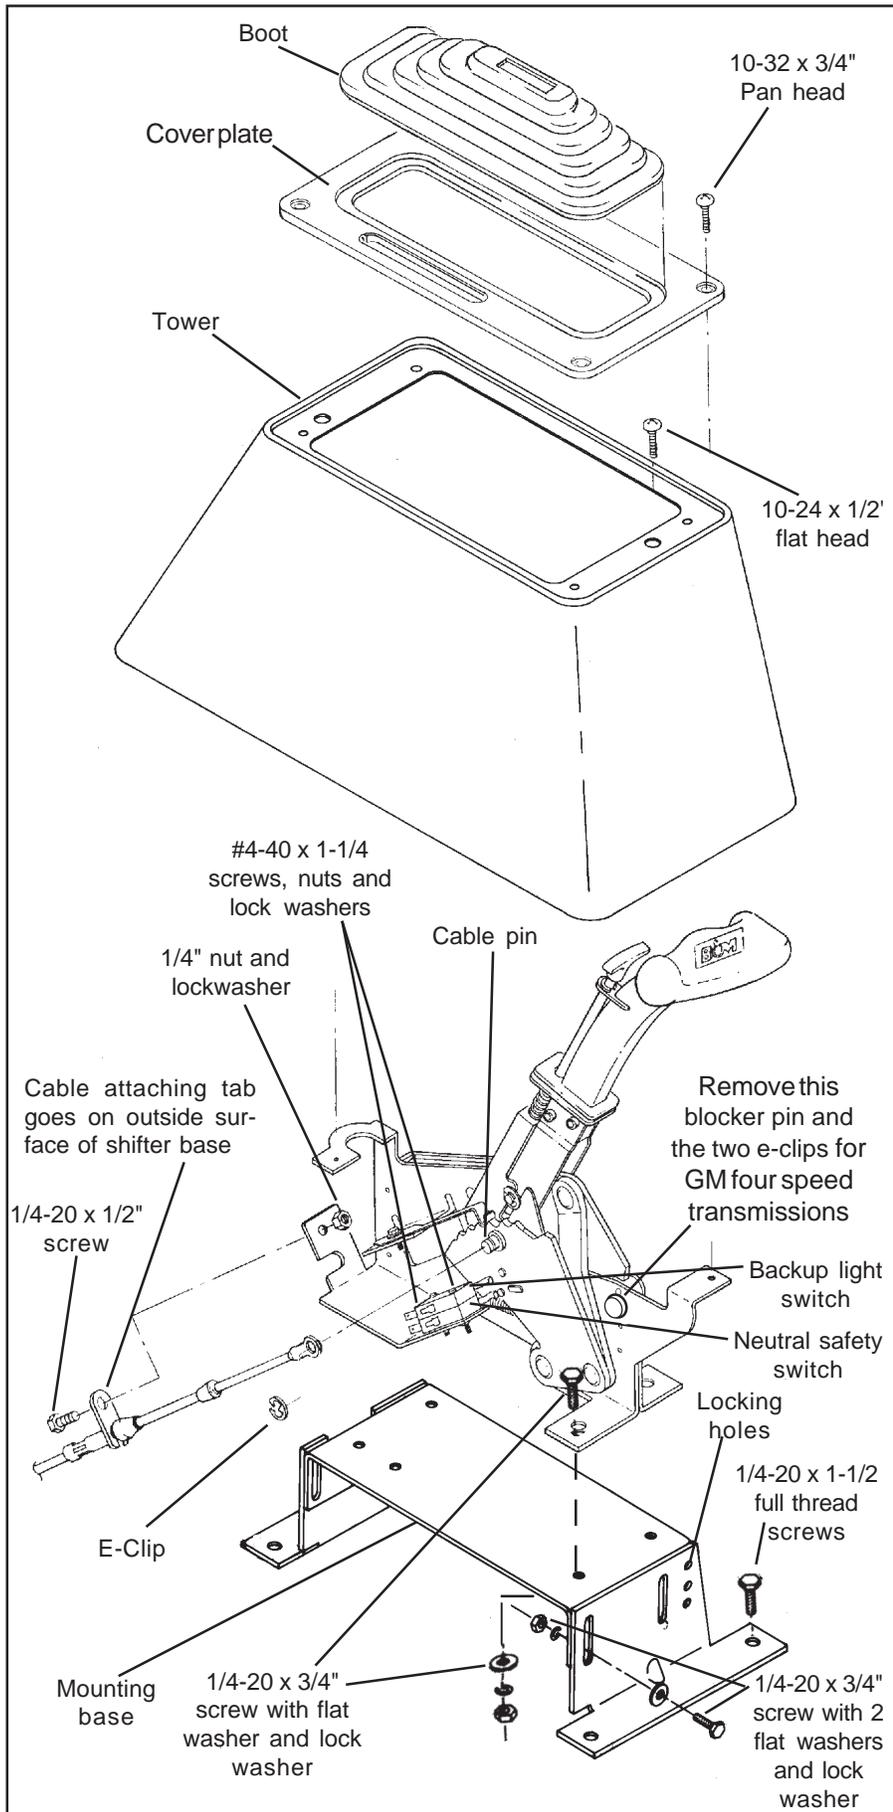

Figure 1
**NOTE:** If you are installing this shifter with a GM four speed automatic transmission, you must remove the blocker pin and the two e-clips indicated in **Figures 1 and 3**. Removing this blocker pin gives the shifter four forward positions rather than three. For Ford AOD four speed transmissions do **not** remove this blocker pin and the two e-clips, since this transmission has only three forward positions. Also do **not** remove the blocker pin and the two e-clips for three speed automatic transmissions.
**STEP 3.** Assemble the mounting bracket as shown in **Figure 1**. Be sure that the end plate with the wide slot on top is to the front and that the top plate has the three holes at the front. Assemble the bracket with the four 1/4-20 x 3/4" screws finger tight. Put flat washers on both sides of the brackets and a lock washer under the nut.
**STEP 7.** Assemble neutral safety and reverse light switches to the bracket using two #4-40 x 1" screws and nuts, as shown in **Figure 1**. **Beware**, over tightening the switch attachment screws will crack the switch housings. Install the switch assembly on the shifter. To adjust the switches, loosen the screws and slide the switches in or out as required, then retighten the screws.
**STEP 8.** Install the cable on the shifter as shown in **Figure 1**. The cable attachment tab should be bolted to the outside surface of the shifter base using a 1/4" x 1/2" hex screw, lock washer and nut. Install the e-clip that secures the cable to the cable pin.
sion shift lever. On C-4, C-5 and C-6 transmissions, it will be necessary to hook up the neutral safety/backup light switches on the **B&M Megashifter**. Locate and identify the neutral safety (the engine will not crank unless these wires are connected together), and the reverse light wires. Disconnect the battery ground cable before beginning to wire the neutral safety and reverse light switches. Reroute the wires to the **B&M Megashifter**. Strip 1/4" of insulation off the wires and install the supplied slip-on terminals. Crimp the terminals onto the wires using a crimping tool or pliers. Connect the neutral safety wires to the **LOWER** switch and the reverse light wires to the **UPPER** switch (See Figure 1). Tape the terminal connections to prevent shorts. Reconnect the battery ground cable, disconnect the coil wire and set the parking brake. Check the switch operation by attempting to start the motor in each shifter position. **The starter must crank only when the shifter is in the Park or Neutral position.** Check the backup light operation when the shifter is shifted to the Reverse position. Adjust the switches if required. Reconnect the coil wire. Go to **Step 29**.
**Megashifter (See Figure 1).** Reconnect the ground wire and check the light for proper operation. Adjust the switches on the shifter if required.
'66-'68: The neutral safety switch will continue to function normally. It will not be necessary to hook up the neutral safety switch wires on the shifter. Disconnect the battery ground cable before wiring the backup light switch. Locate the original backup light switch on the steering column or the console shifter. Run these wires to the top switch on the **B&M Light Truck Megashifter (See Figure 1).** Reconnect the ground wire and check the light for proper operation. Adjust the switches on the shifter if required.